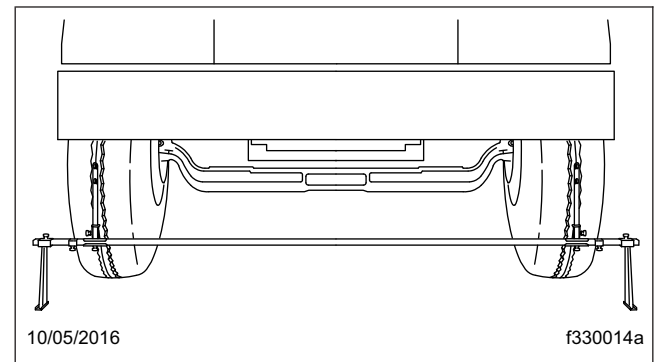
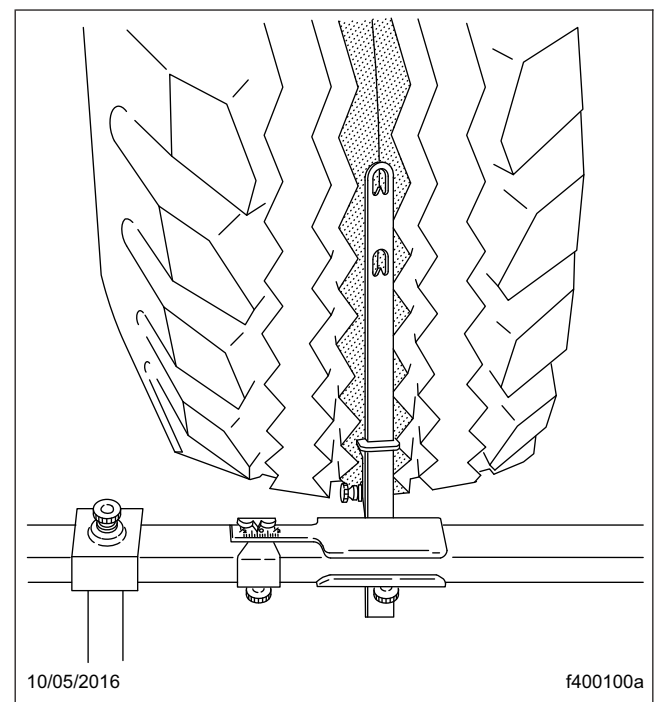

Fig. 6, Trammel Bar Positioning
Fig. 7, Setting Trammel Bar Pointers
7. Place the trammel bar at the front of the tires (see Fig. 6) and adjust the scale end so that the pointers line up with the scribe lines. See Fig. 7.